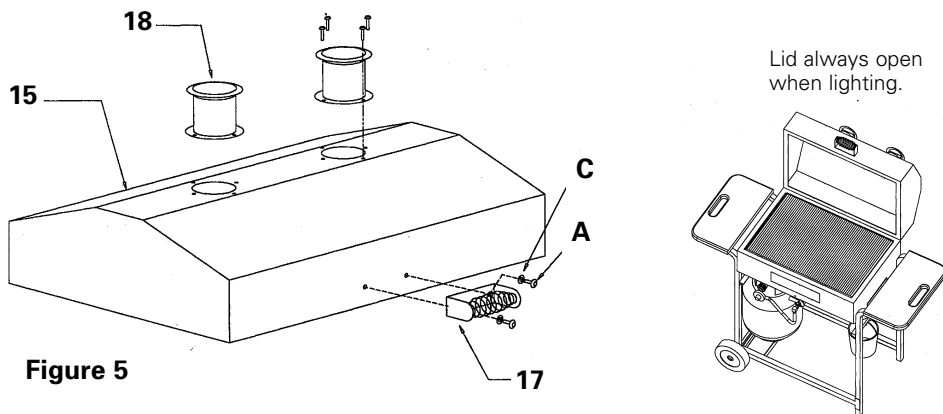

Figure 5
- 6. Refer to figure 5. Select the grill top handle (part 17) and attach it as shown with two "A" screws and "C" lockwashers into the threaded holes in the grill top. Select the two stacks (part 18) and attach them to the grill top with "A" screws, "C" lockwashers and "D" hex nuts.